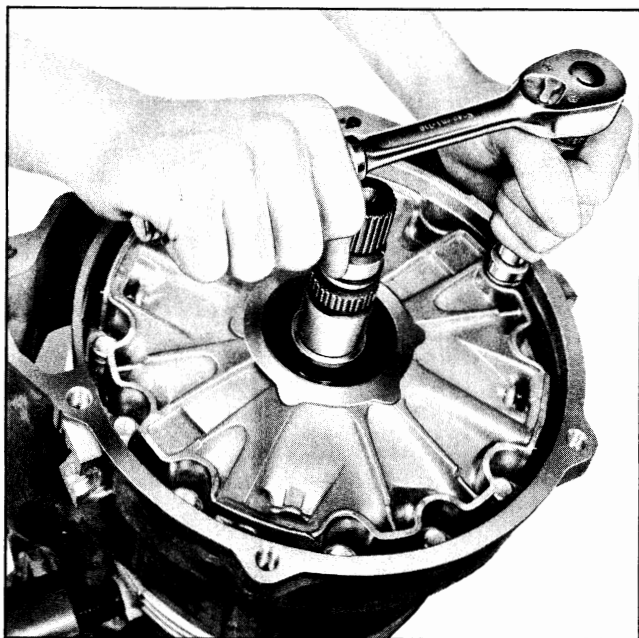

Fig. 7C-54 Removing Torus Cover Bolts
4. If replacement is necessary, remove and discard front seal by bending the entire outer edge of the seal in toward the center with a punch or screwdriver. The seal can then be removed with pliers or by prying out with a long screwdriver as shown in Fig. 7C-52.